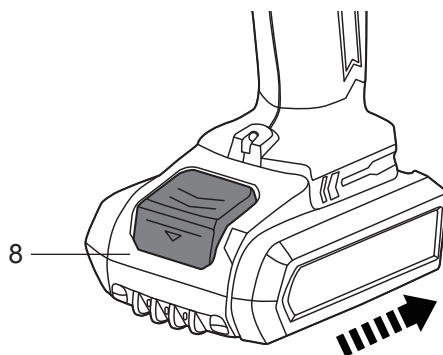

Fig. 3
- > To attach the battery to the product, align the battery pack (8) with the sliding slots of the battery docking port and slide the battery pack in. Ensure it clicks in place (Fig. 3).